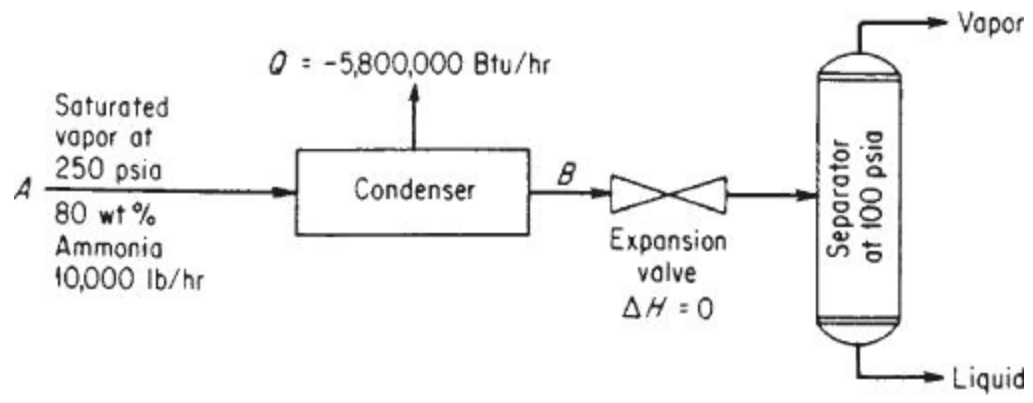

Figure P13.15
13.15*. A mixture of ammonia and water in the vapor phase, saturated at 250 psia and containing 80% by weight ammonia, is passed through a condenser at a rate of 10,000 lb/hr. Heat is removed from the mixture at the rate of 5,800,000 Btu/hr while the mixture passes through a cooler. The mixture is then expanded to a pressure of 100 psia and passes into a separator. A flowsheet of the process is given in Figure P13.15. If the heat loss from the equipment to the surroundings is neglected, determine the composition of the liquid leaving the separator by material and energy balances.